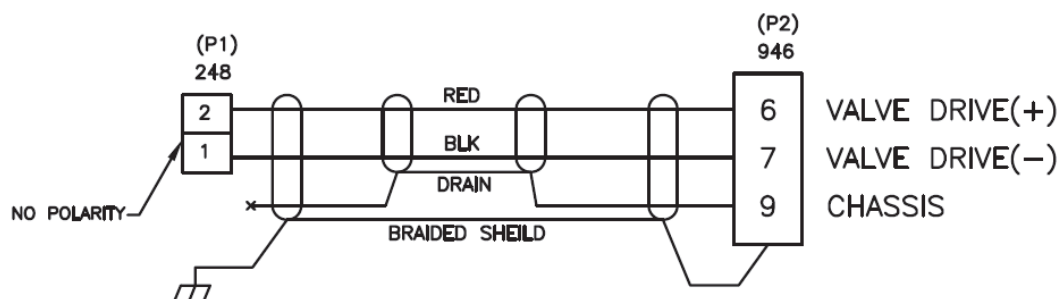

Figure 7-8 Wiring Diagram for 10018192 Cable
- 100018192 cable can be used to connect an MKS 148/248/154 upstream valve to the 946 Vacuum System Controller. Its wiring diagram is shown in Figure 7-8. Only one valve can be connected to the controller to regulate the system pressure.